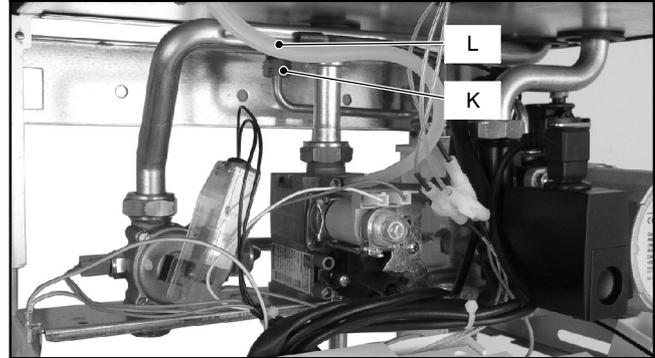

Fig. 7
- 2 Completely unscrew the connection *K*, the locknut *L* (Fig. 7) and remove the expansion vessel from the top of the boiler.